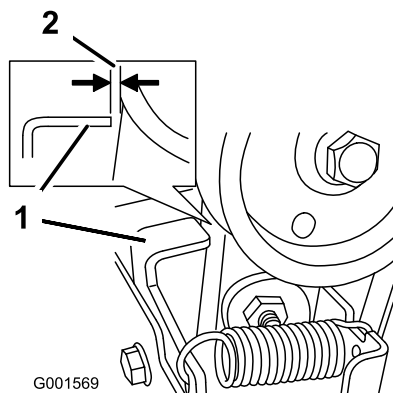

Figure 41
3. With the auger/impeller lever disengaged, ensure that the gap between the auger clutch assembly and the tab is 1.5 mm (1/16 inch) as shown in Figure 41.